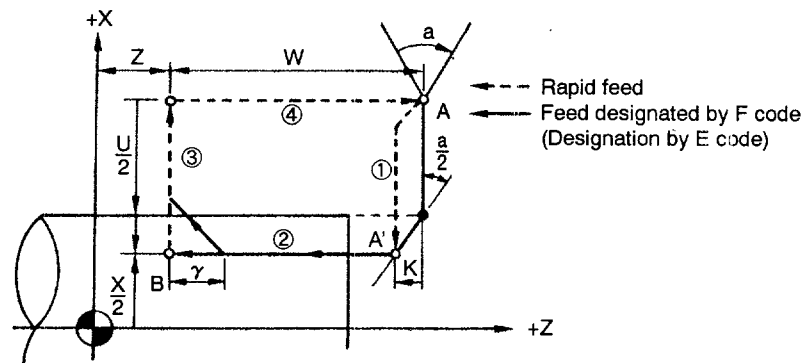

Fig. 4.7 Straight Thread Cutting Cycle (In-feed along Thread Angle)
With the commands of "G92 X(U) ··· Z(W) ··· K ··· F(E)··· ;", straight thread cutting cycle of ① to ④ as shown in Fig. 4.7 is executed. In this cycle, in-feed is made along the thread angle.